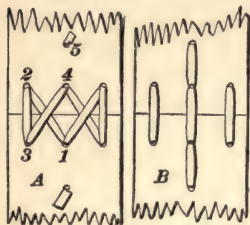

FIG. 16.
34. Lacing.—The ends of a belt may be joined by *lacing*, *sewing*, *riveting*, or *cementing*. Many ways of **lacing** belts are used. A very satisfactory method for belts up to 3 inches in width is shown in Fig. 16. Cut the ends of the belt square, using a sharp knife and a try square. Punch a row of holes according to the width of the belt, punching